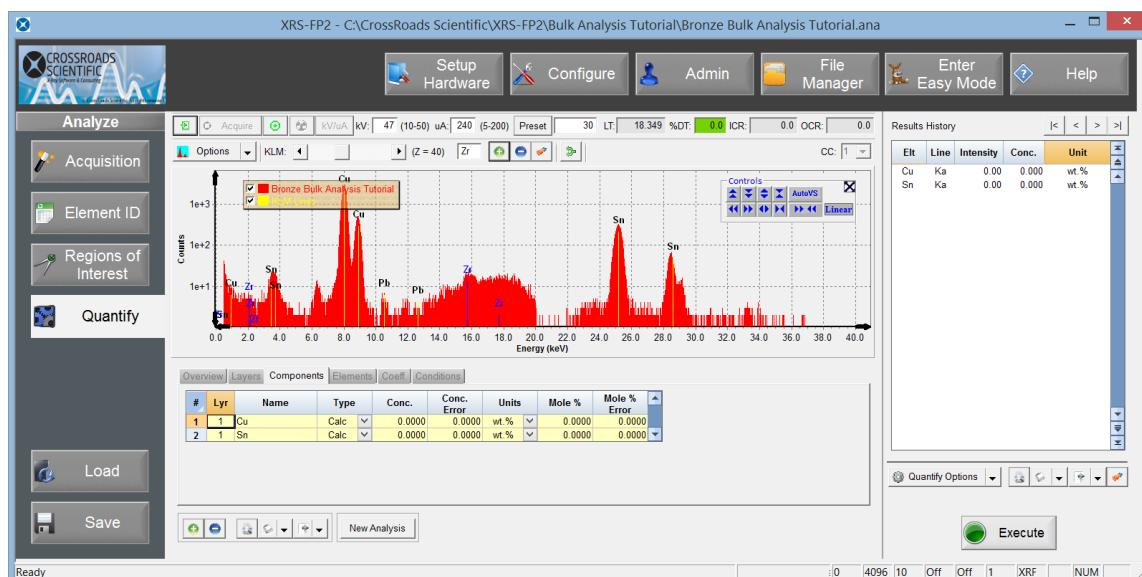

Figure 9. XRS-FP2 Analyze Workflow - Quantify. Visual inspection of the bronze spectrum associated with this application.
10. Then select the **Quantify** button from the L-hand panel. Notice that the bronze spectrum (adjusted) associated with this particular application is loaded in this view (Fig. 9 below). Clicking on the “Log” button in the “Controls” panel in the spectrum view can be very useful for quantitative inspection. Here we see the Cu and Sn analyte peaks are identified, as well as trace Pb (not uncommon to bronzes) and a small Zr system peak (coming from the spectrometer, not the sample). The Pb and Zr are very small peaks and will not interfere with the application calibration setup or analysis.